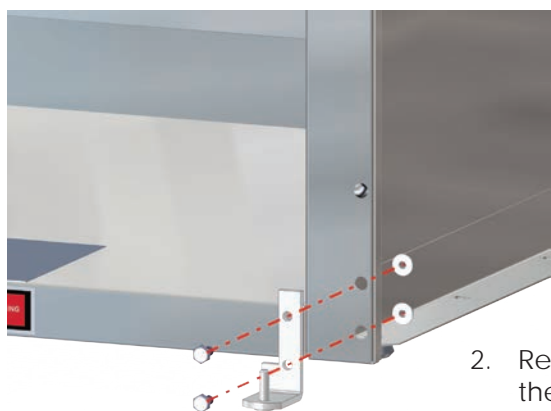

Figure 54: Remove Bottom Hinge
2. Remove the nuts that fasten the bottom hinge to the unit and remove the screws and bottom hinge (Figure 54).